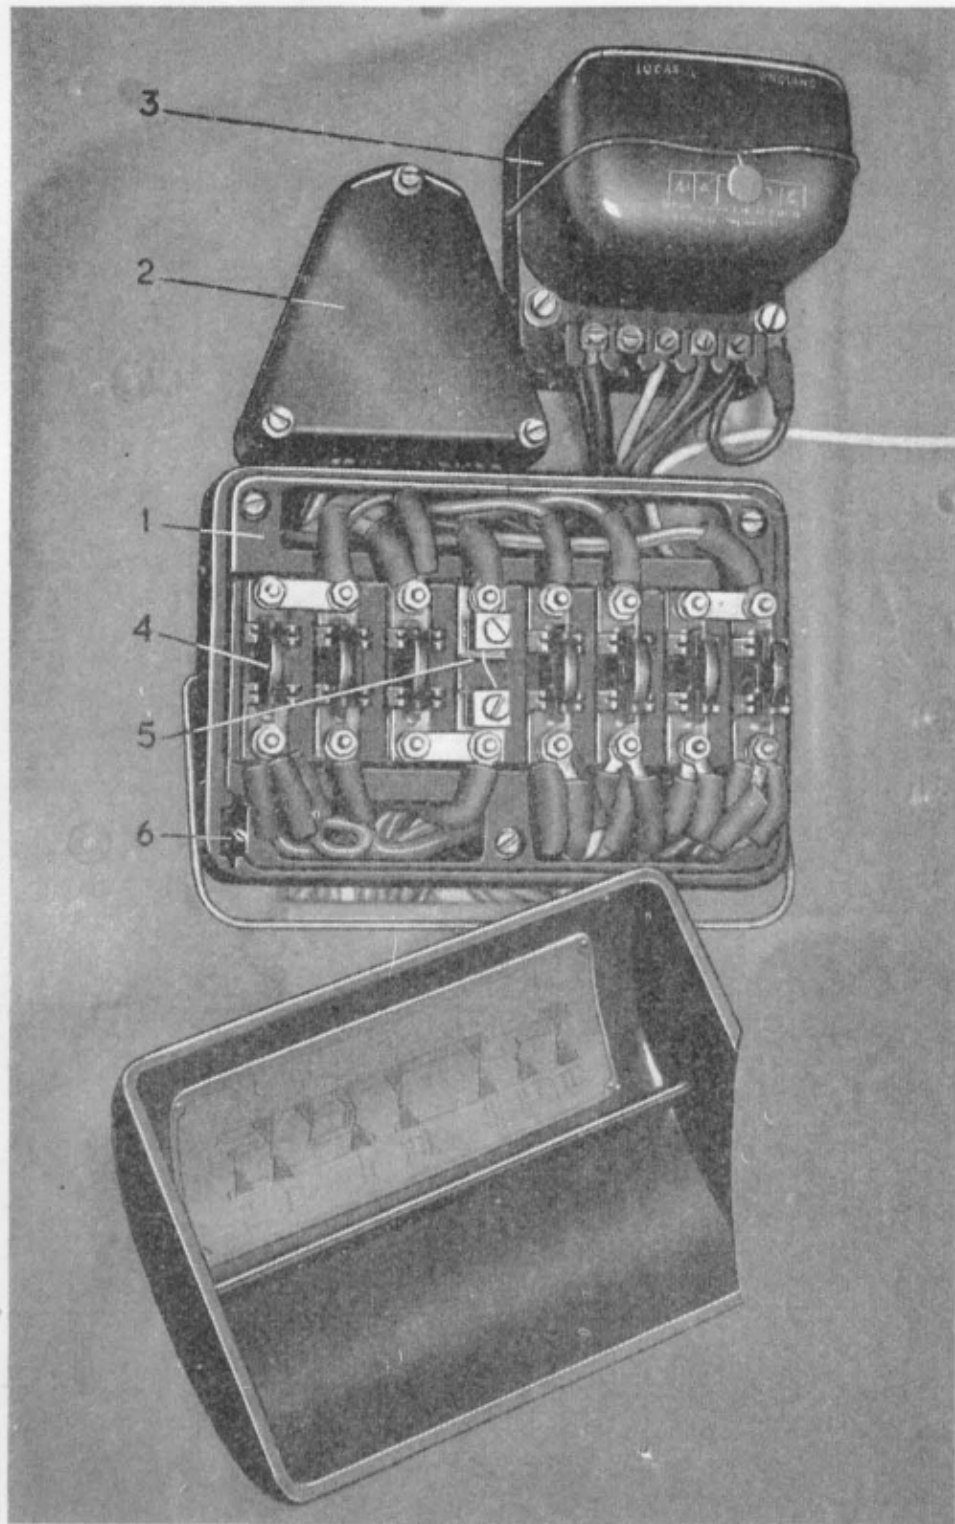

Fig. 36.—FUSE BOX, CONNECTING BOX, OUTPUT REGULATOR AND CUT-OUT.
The unit is shown in Fig. 36, with its cover removed.
The output regulator and cut-out are mounted on the front of the dashboard, and are shown (3, Fig. 36).
1. Connect the NEGATIVE lead, by means of a clip, to the main fuse terminal in the fuse box (Fig. 36).